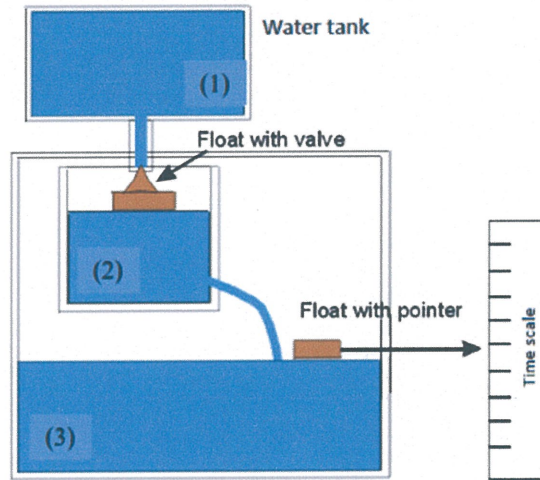

FIGURE Q1(d)
- (d) Water clock is possibly the oldest time-measuring instruments. **FIGURE Q1(d)** shows an automatic control of water level using a float level for a water clock. The water clock consists of three water tanks: Tank 1 - a tank for the water source, Tank 2 - a small tank which contains a float with valve, and Tank 3 - a big tank contains a float with a pointer. This clock measures the time by the weight of water flowing from Tank 2 to Tank 3. As the water flows, the float and the pointer, which shows the time will rise. Since the accuracy of this water clock depends heavily on the constant flow of water, it is important to control the water flow from Tank 1 to Tank 2. This can be achieved by the use of the float with the valve. If the water level in Tank 2 decreases, more water flows from Tank 1 to Tank 2 and the water level will increase. If the water level in Tank 2 increases, less water flows from Tank 1 to Tank 2 and the water level will decrease.